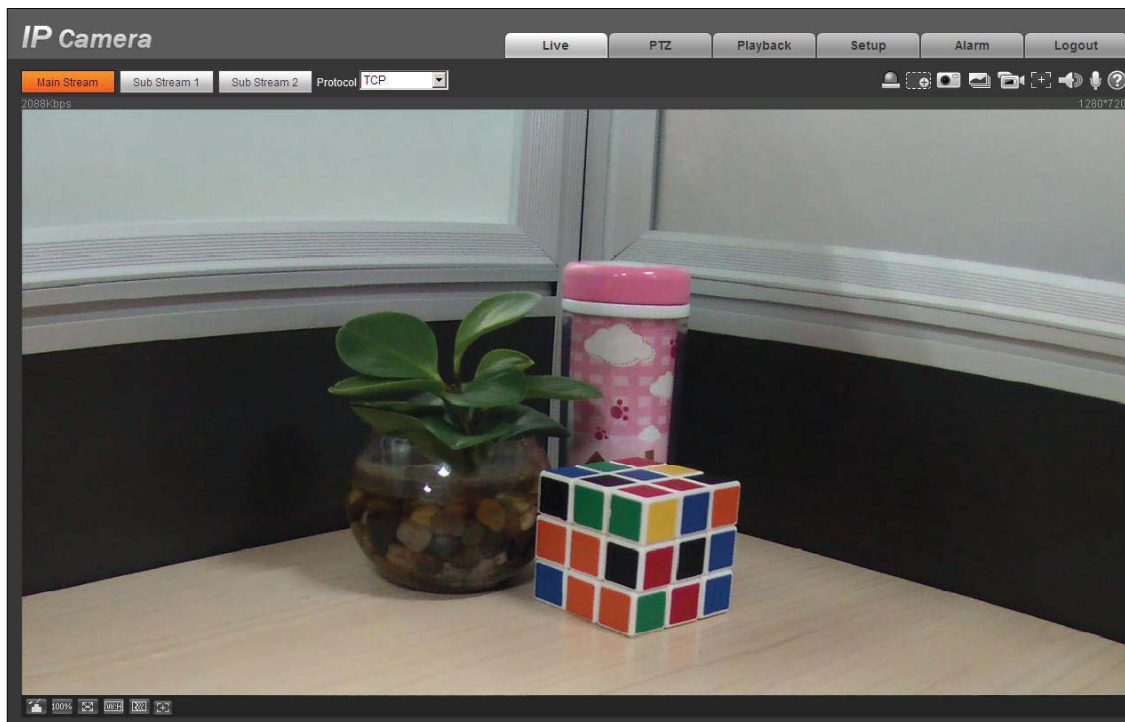

Figure 4-4
Step 3 Install controls according to the system prompt; see Figure 4-4 for the WEB main interface. Please modify the administrator password as soon as possible after you successfully logged in.